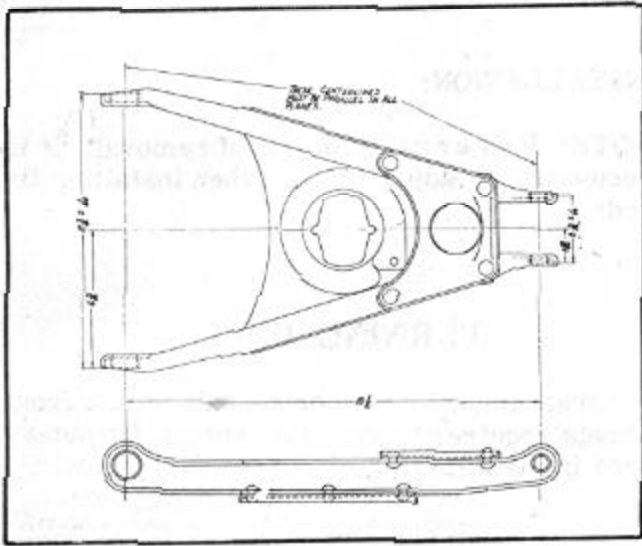

FIGURE 19
5. Replace suspension arms if these are bent or twisted. Do not attempt to straighten. Refer to Figure 19 for specifications.